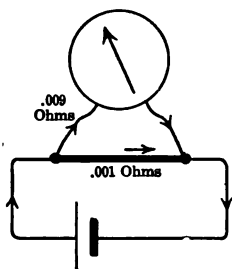

FIG. 462. — Shunt across ammeter.
11. Suppose an ammeter whose resistance is 0.009 ohm can safely carry 10 amperes. If it reads 10 amperes when connected in series, what will be its reading after a shunt of 0.001 ohm resistance has been connected across its terminals as in Fig. 462? How strong a current can then be safely used with the ammeter?